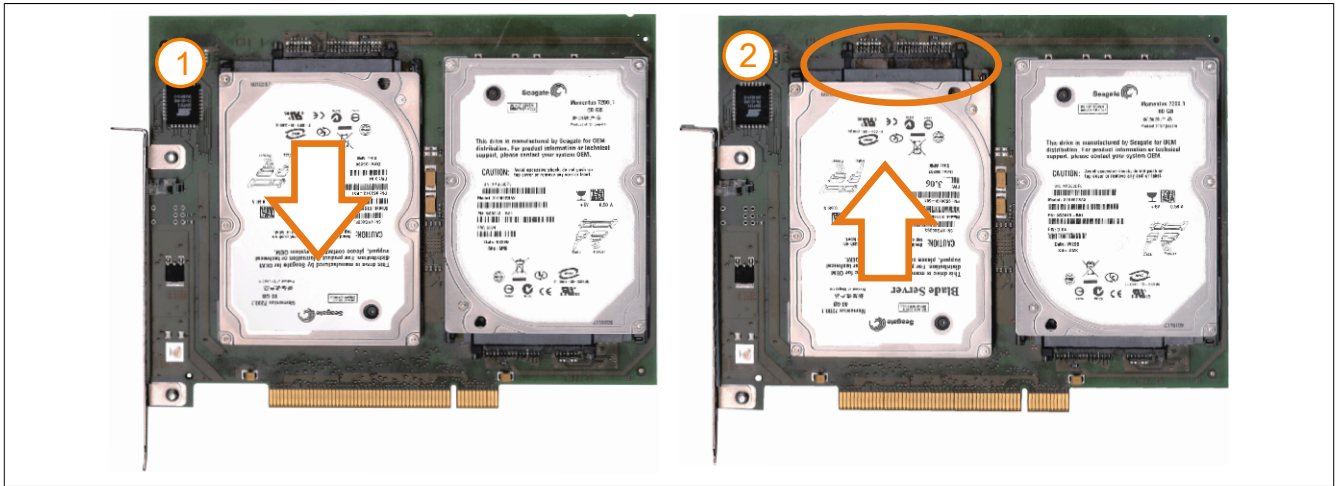

Figure 167: Hard disk exchange
6. On the front side, slide the hard disk down and away (Figure 167: Hard disk exchange - left image).
7. Insert the new hard disk carefully into the connector (Figure 167: Hard disk exchange - right image), being careful to only touch it on the front, and not on the top.